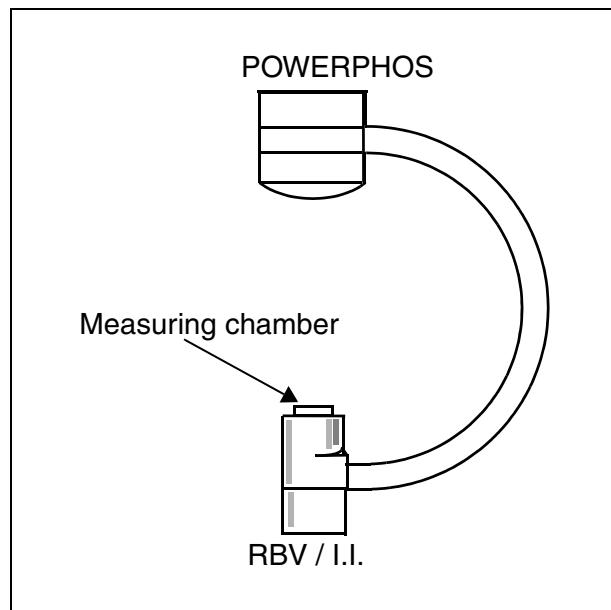

Fig. 10
- Attach the small (1 cm^3) dose measuring chamber in the center of the I.I. (Fig. 10).